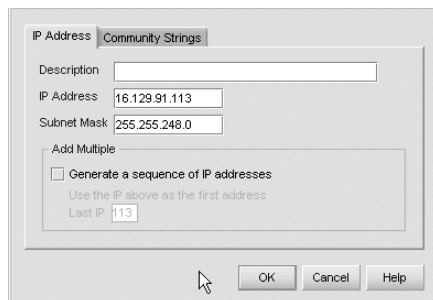

Figure 23: Domain Information dialog box (IP Address page)
2. Click **Add**. The Domain Information dialog box displays with the **IP Address** page open, as shown in Figure 23.